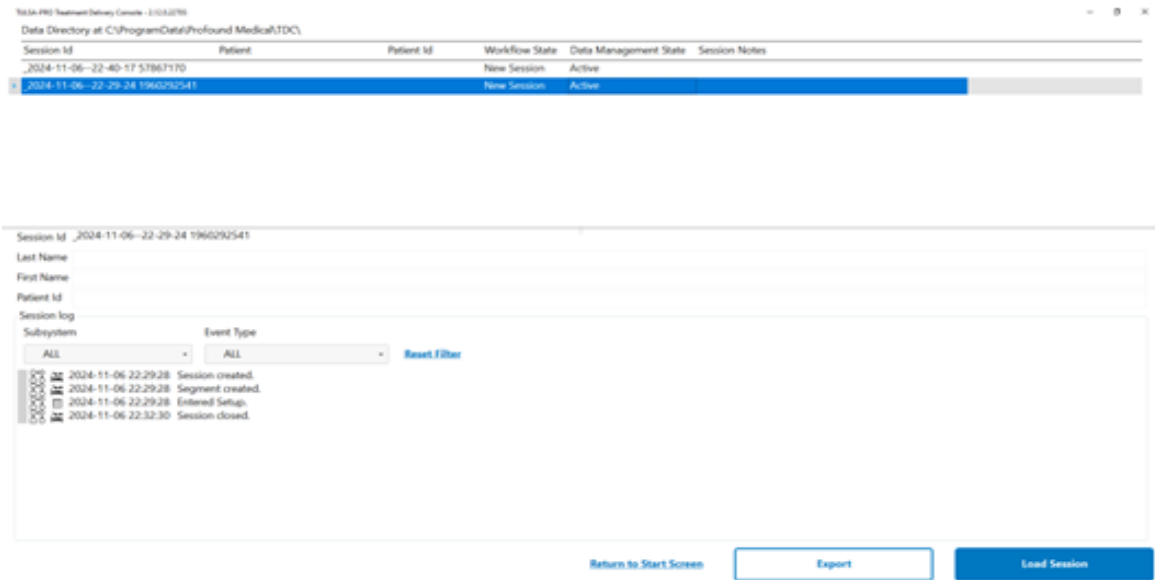

Figure 61: TDC Manage Sessions screen
2. On the TDC **Manage Sessions** screen (*Figure 61*), select a treatment session and click **Export**.